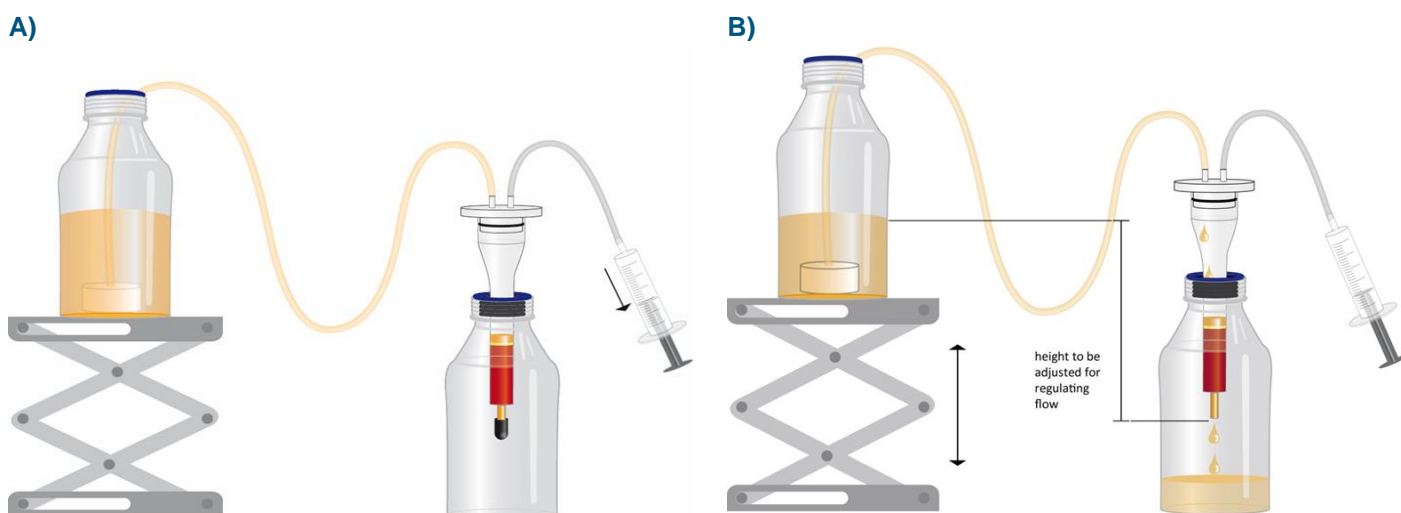

Fig 1: Assembly of the WET FRED and regulation of the flow speed.
- 4.7 Gently aspirate the sample with the 5 ml syringe until the column bed is overlaid with 0.5-1 ml of sample (see arrow, Fig. 1, A).
- 4.9 Regulate flow to approximately 1 ml/min by adapting height difference between column outlet and sample surface (see Fig 1, B). 20 drops equal approximately to 1 ml. 1 ml/min fits for all columns. In case of larger volumes, 5 ml and 10 ml columns can be run up to 3 ml/min. 15 cm height difference might be a good starting point, but please note that depending on the form of the selected container (small and high or wide and flat) the liquid level might change faster or slower by time and therefore the flow rate.